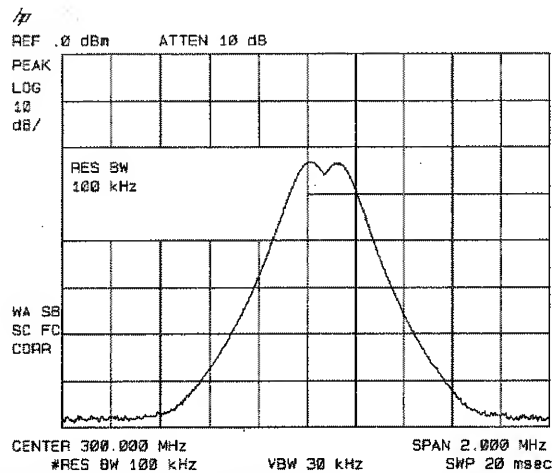

Figure 3-2. Resolving Signals of Equal Amplitude
Generally, to resolve two signals of equal amplitude, the resolution bandwidth must be less than or equal to the frequency separation of the two signals. If the bandwidth is equal to the separation a dip of approximately 3 dB is seen between the peaks of the two equal signals, and it is clear that more than one signal is present. See Figure 3-2.
4. Since the resolution bandwidth must be less than or equal to the frequency separation of the two signals, a resolution bandwidth of 100 kHz must be used. Change the resolution bandwidth to 100 kHz by pressing **BW** **100** **kHz**. Two signals are now visible as in Figure 3-2. Use the knob or step keys to further reduce the resolution bandwidth and better resolve the signals.